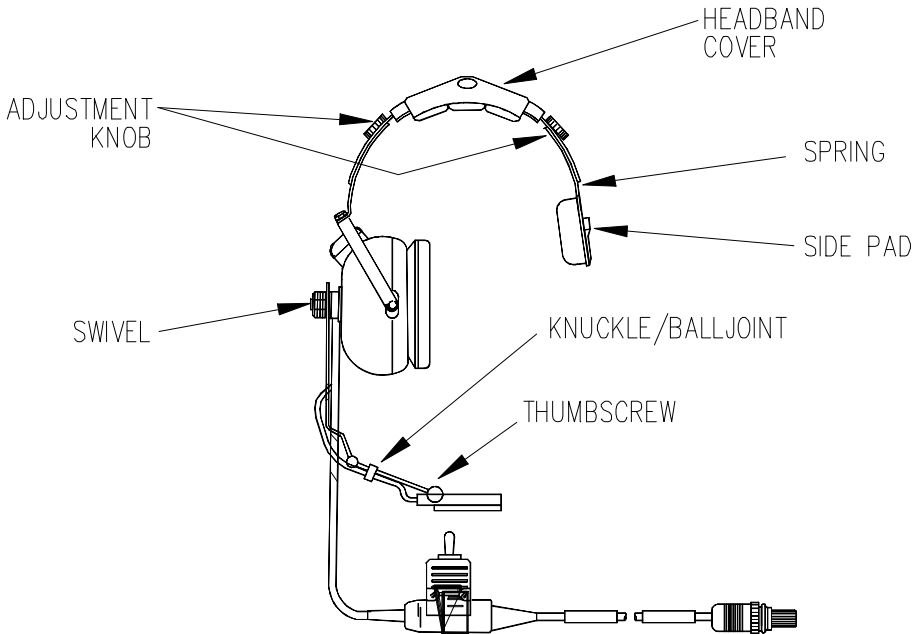

Figure 2-24. Wearing the CCH Headset
- a. Spread the earcup and side pad and place the headset onto the head with the overhead band comfortably positioned. See figure 2-24.